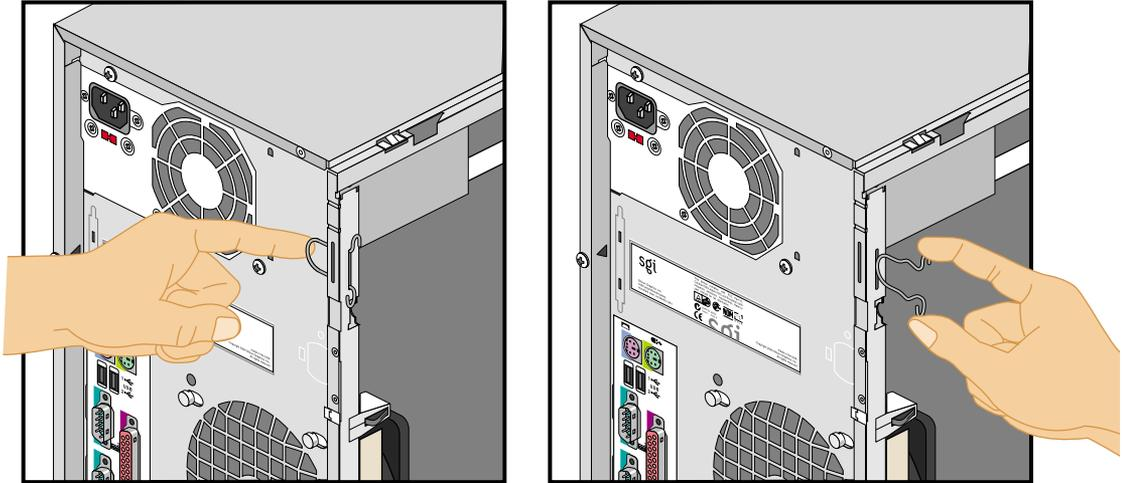

Figure 2-29 Removing Locking Hook from its Storage Slot
3. Remove the locking loop from its storage slot by pressing the two hooks towards each other and pushing the loop out of the chassis. Figure 2-29 illustrates the procedure.